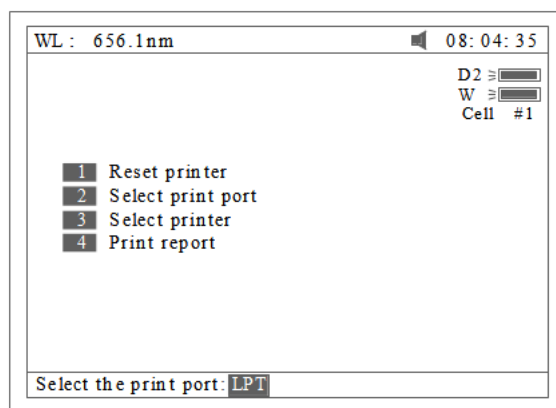

Fig 76
2. Press **【2】** in Fig 75 to select print port (LPT or Comm., Fig 76).